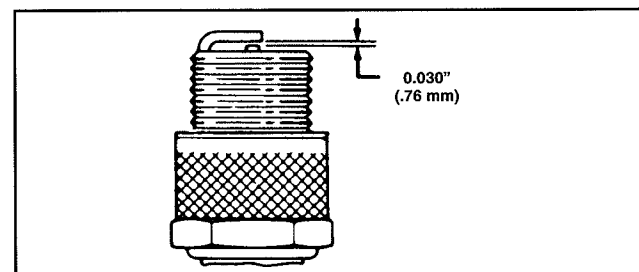

Figure 13
3. Set air gap at 0.030" (0.76 mm) (Fig. 13). Install correctly gapped spark plug and gasket seal. Tighten plug firmly to 15 ft-lb (20 N-m).